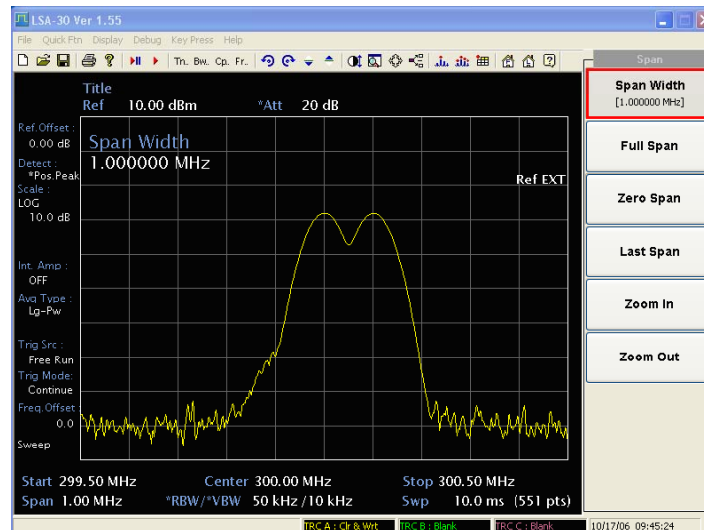

Fig. B-4 Resolving signals of equal amplitude
Generally, to resolve two signals of equal amplitude, the resolution bandwidth must be less than or equal to the frequency separation of the two signals. If the bandwidth is equal to the separation and the video bandwidth is less than the resolution bandwidth, a dip of approximately 3 dB is seen between the peaks of the two equal signals, and it is clear that more than one signal is present. See Fig. B-4.
- 4 Since the resolution bandwidth must be less than or equal to the frequency separation of the two signals, a resolution bandwidth of 50 kHz must be used. Change the resolution bandwidth to 50 kHz by setting [RBW] 50 kHz. Two signals are now visible as shown in Fig. B-4. Use the knob or step keys to further reduce the resolution bandwidth and better resolve the signals.